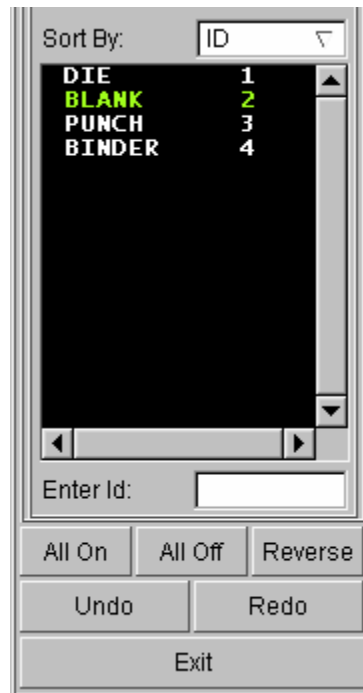

Figure 1.50 Turn parts on/off dialog box
- In Part Operation dialog, use your mouse cursor to click on all the parts, excluding BLANK, as illustrated in Figure 1.50. All the tools are hidden from the display area. Then, press **Exit** button to dismiss the dialog box.